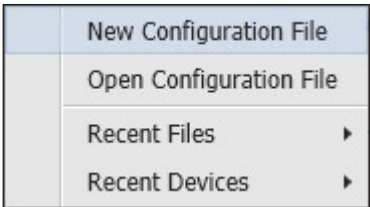

Figure 26. Configuration File Drop-Down List
1. From the Configuration File drop-down list, select **New Configuration File** (see figure 26).